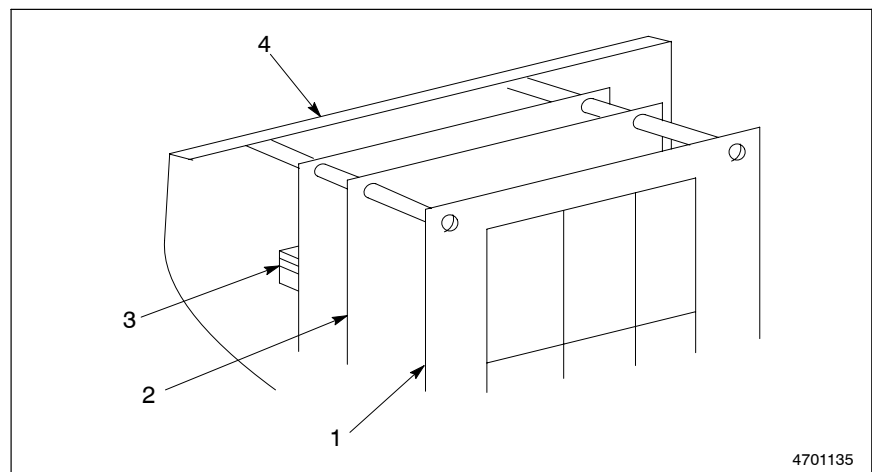

Fig. 4-2 LCU Organization
4. See Figure 4-2. Locate the Logic Control Unit (LCU) (2) inside the lockable electrical enclosure.